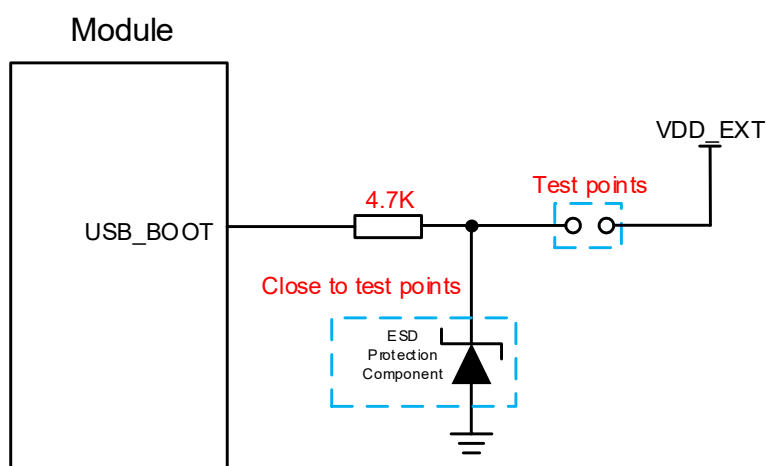

Figure 19: Reference Design of USB_BOOT Interface
2. When using MCU to control module to enter the emergency download mode, follow the above timing sequence. It is not recommended to pull up USB_BOOT to 1.8 V before powering up VBAT. Directly connect the test points as shown in **Figure 19** *Error! Reference source not found.* can manually force the module to enter download mode.
3.13. (U)SIM Interfaces